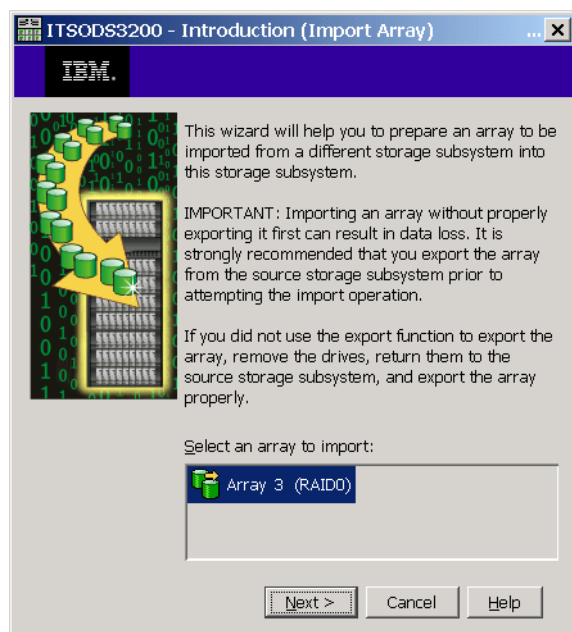

Figure 14-57 Import Array
1. Click the **Import Array** link in the Advanced Support Task window (Figure 14-46 on page 335). If imported disks are inserted, the Introduction window (Figure 14-57) appears.